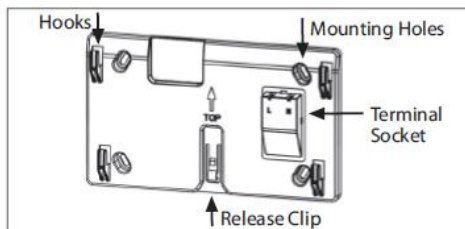

Figure 3b.
- Securely fix the Wall Mounting Base to the wall surface with the screws and wall plugs supplied. (See Figure3b). The Wall Mounting Base can be used with or without a flush box (Cat144) in the wall cavity. When using a flush box the Wall Mounting Base can utilise either the left or right pair of mounting holes.